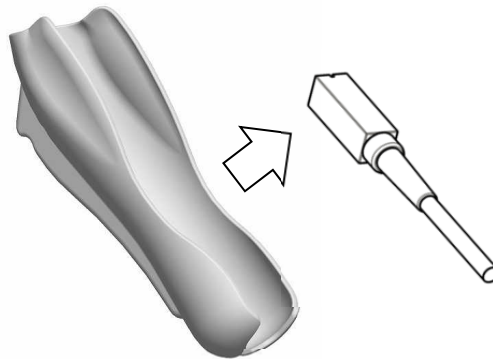

Fig. 16 How to release magnetic sensor from the Magnetic Sensor Attachment
- 2) Detach the magnetic sensor from the Magnetic Sensor Attachment as shown Fig. 16.